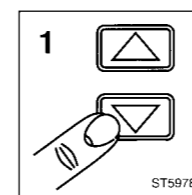

Figure 5.3 Analog A2 PCB; position of hardware adjustment trimmers and potentiometers
- B - Turn trimmer C2209 on the analog A2 PCB to get the best channel A pulse response on the LCD (least distorted waveform). The position of trimmer C2209 can be found in figure 5.3.
- C - Turn trimmer C2109 on the analog A2 PCB to get the best channel B pulse response on the LCD. The position of trimmer C2109 can be found in figure 5.3.